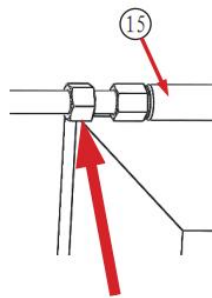

Fig 12
8. After installation, tighten the nut of the connection rod. See Fig 12